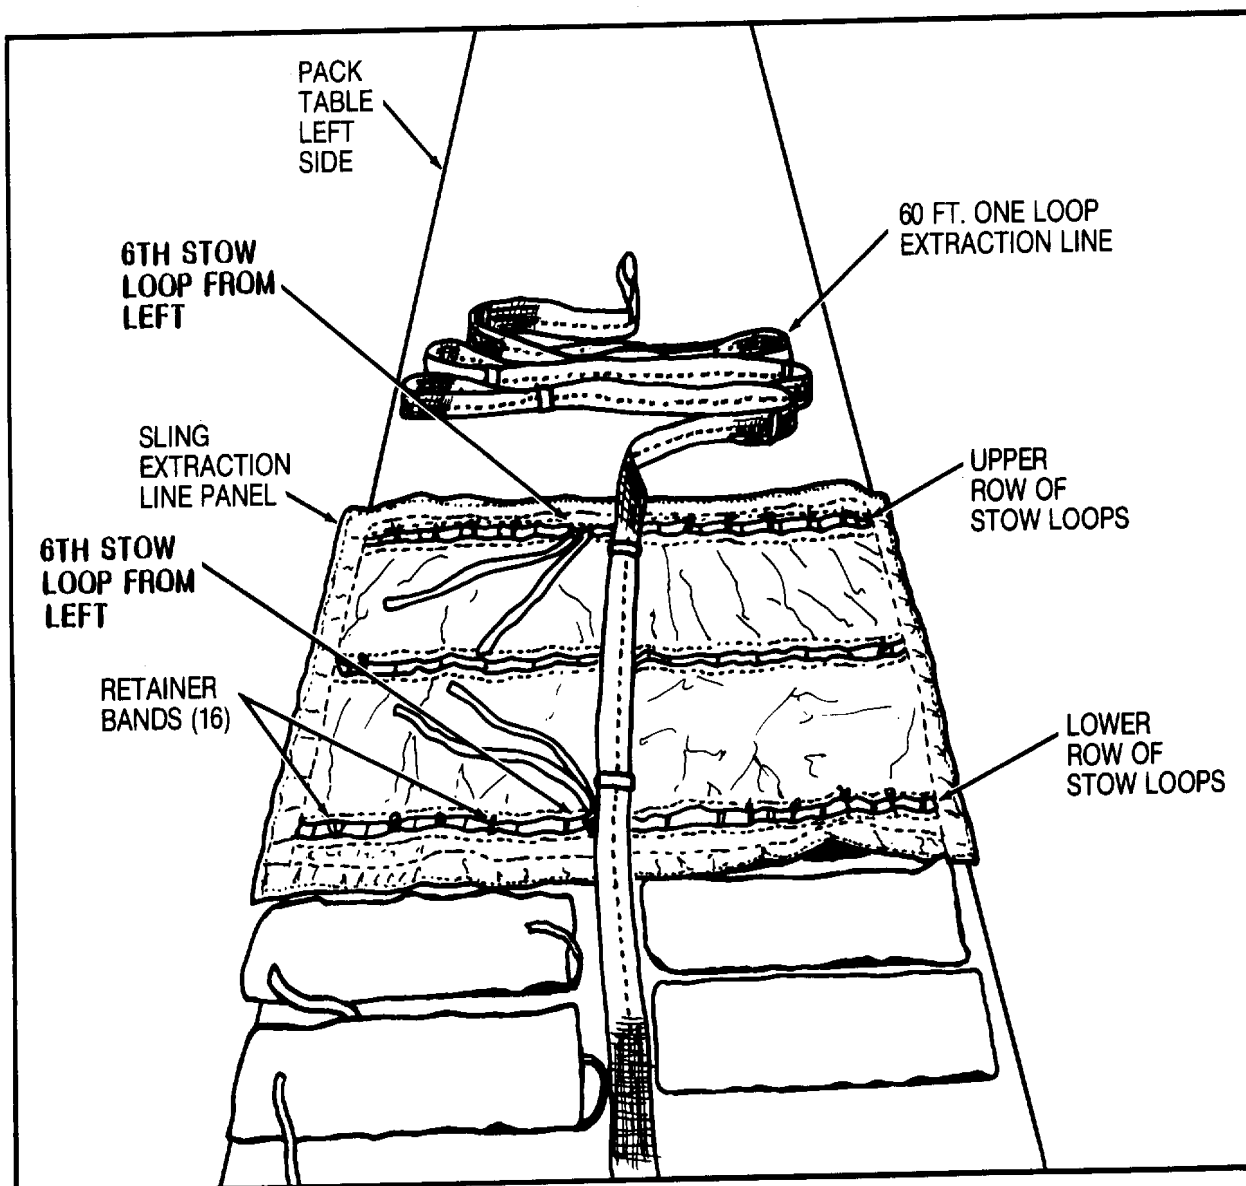

Figure 1. Layout for Extraction Line Panel and 60-FT. One Loop Extraction Line.
- a. Position Extraction Line Panel on pack table or suitable surface with stow loops facing up and running lengthwise (figure 1).